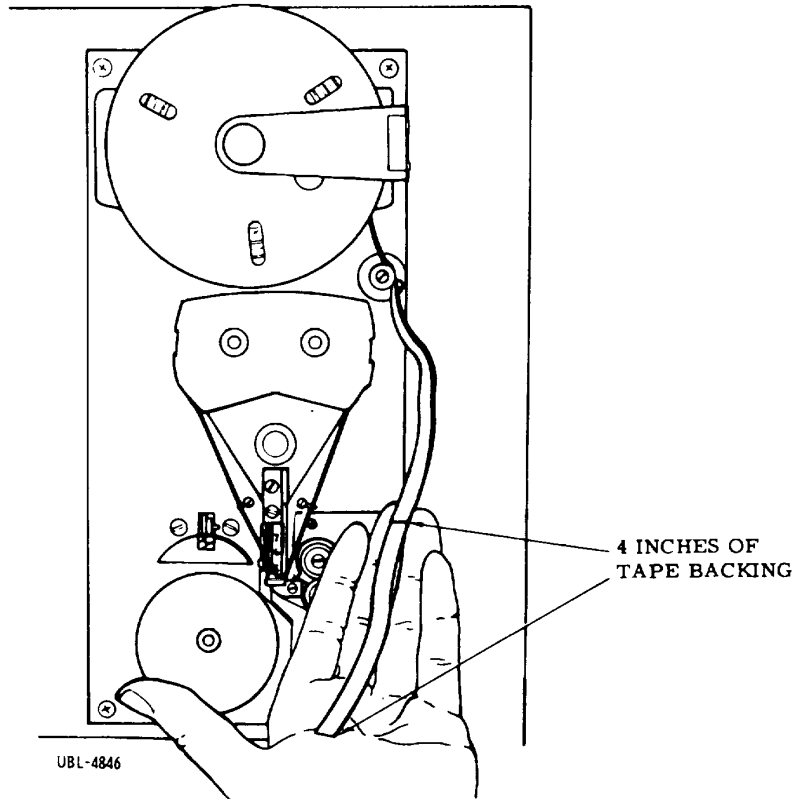

Figure 4-19. Preparing Label Tape
**4-88.** On tape end extending from reel, strip label material away from tape backing for a length of approximately 4-in. Cut off and dispose of 4-in. length of label material so that tape coming from reel has a 4-in. end consisting of backing material only (figure 4-19).